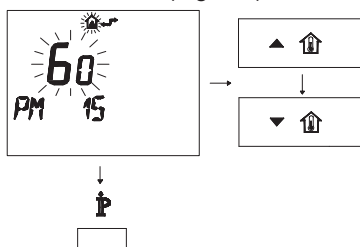

Fig. 8.4
- Modify the programmed SET by pressing buttons  $\blacktriangle$   $\text{UP}$  or  $\blacktriangledown$   $\text{UP}$  until a **setting of 60** is displayed, wait for the number programmed to flash (Fig. 8.4).